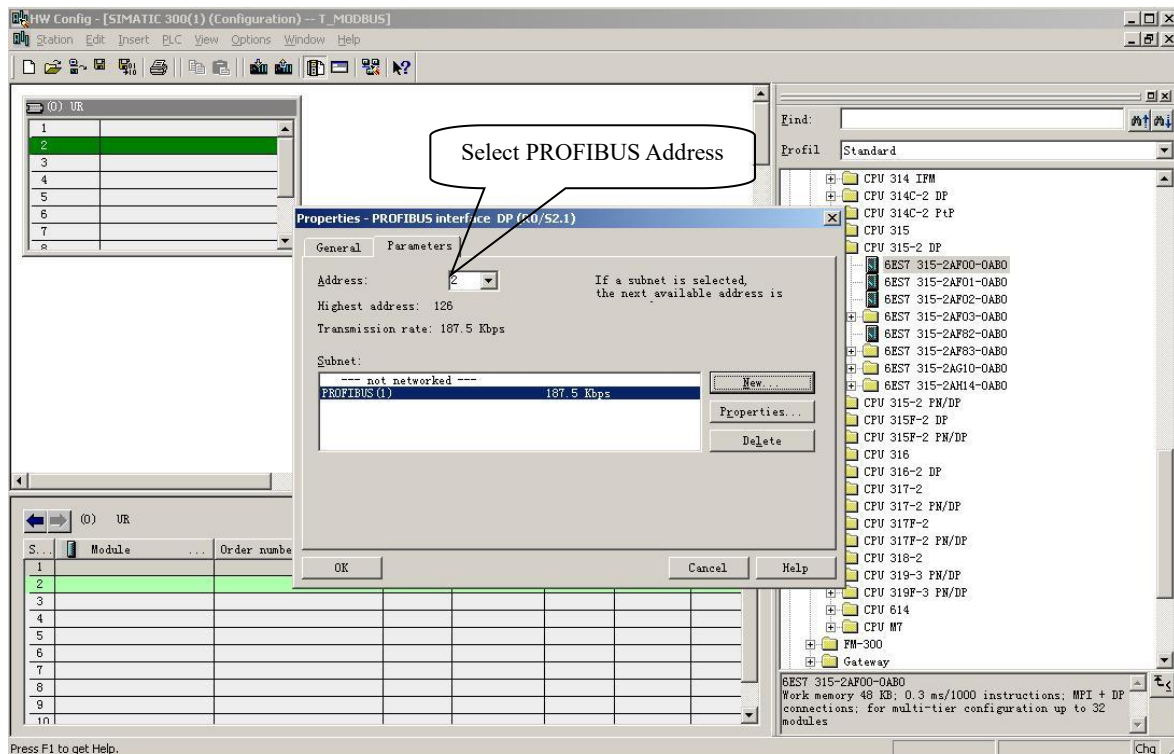

Figure 9
10. Select PROFIBUS Master station address, Figure 9: